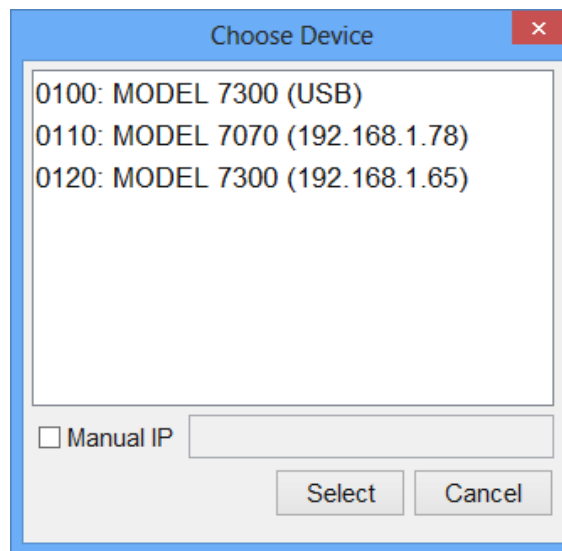

Figure 7: Device selection dialog
**Device → Connect** automatically detects available 7000 Series devices connected via Ethernet or USB. If a connection is already established, this option disconnects and opens the dialog as shown in Figure 7.